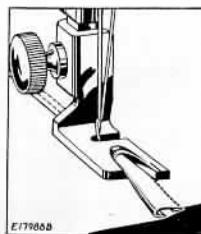

Fig. 44. Making a Felled Seam (Second Operation)
- Open the work out flat, wrong side up, and hem free edge of seam, stitching it flat to garment as shown in Fig. 44.